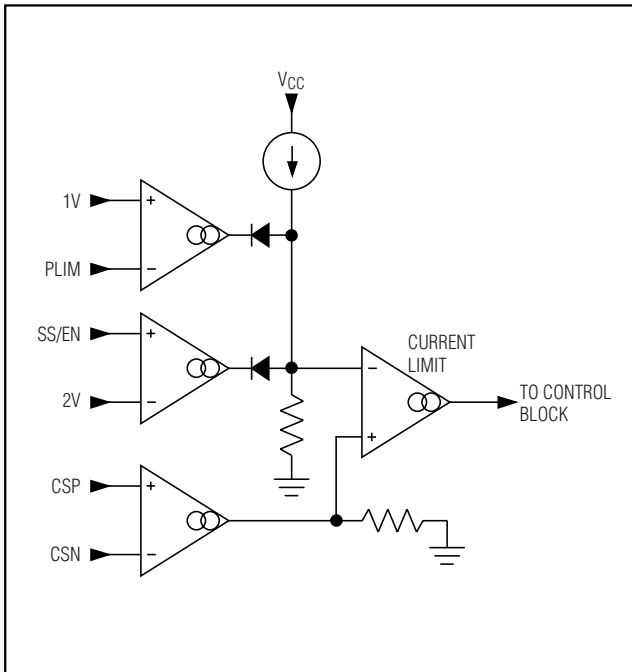

Figure 3. Current-Limit Functional Diagram
is enabled. As the voltage on SS/EN continues to increase, the current-limit threshold slowly ramps up, effectively limiting the input inrush current during power-up (Figure 3). The MAX8704 reaches the full current limit when the SS/EN voltage exceeds 2V.
The MAX8704 features a current limit (Figure 3) that monitors the voltage across the current-sense resistor, typically limiting the CSP to CSN voltage to 50mV. When the CSP to CSN voltage reaches the current-limit threshold, the MAX8704 regulates the output current rather than the output voltage. During startup, the soft-start circuit ramps the current limit to reduce the input surge current (see the *Soft-Start Capacitor Selection* section).
1.0V, the MAX8704 folds back the current limit to reduce the power dissipation across the external components (Figure 3). The power limit allows an output short for an indefinite period of time without damaging the MAX8704 or its external components.